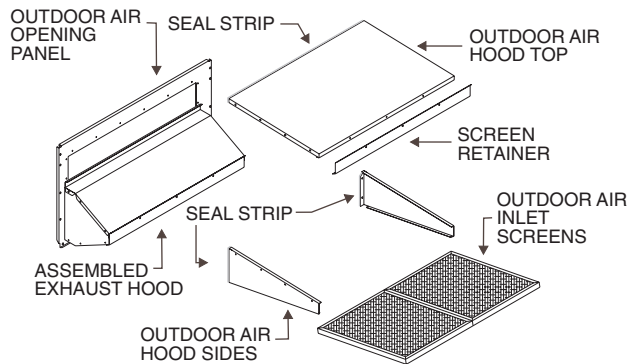

Fig. 26 — Outdoor-Air Hood Assembly
4. Install the $\frac{1}{8} \times \frac{3}{4}$ in. seal strip on the outdoor-air hood top and side panels. Assemble the outdoor-air hood to the outdoor-air opening panel as shown in Fig. 26, using the screws provided. *Do not attach hood assembly to the unit at this time.*